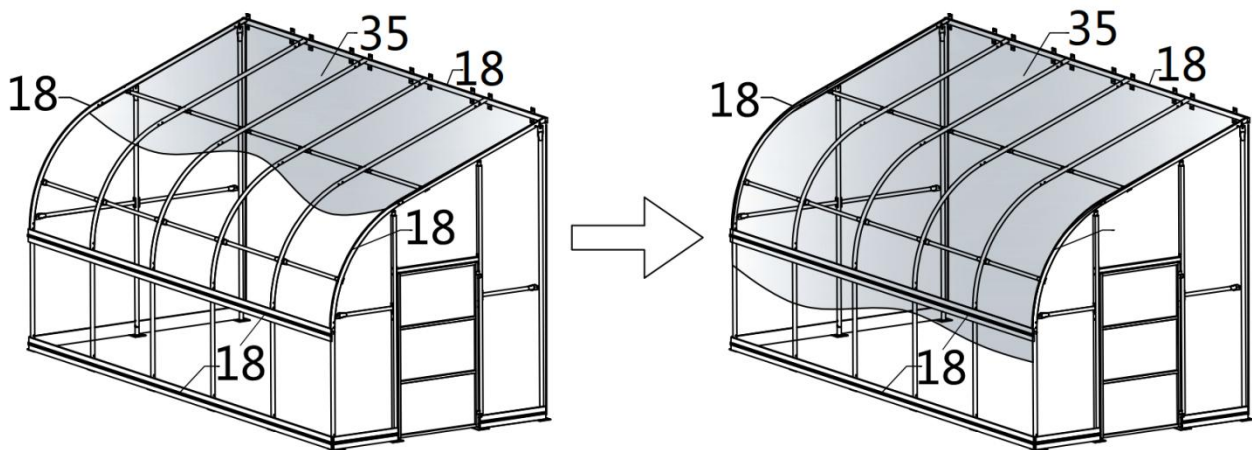

Figure 11
- After installing tarpaulin on both sides, install top cover film (#35) (refer to figure 11). First clamp tarpaulin with clip spring from the top, and then to the side.
- (11) Clip spring (#17)